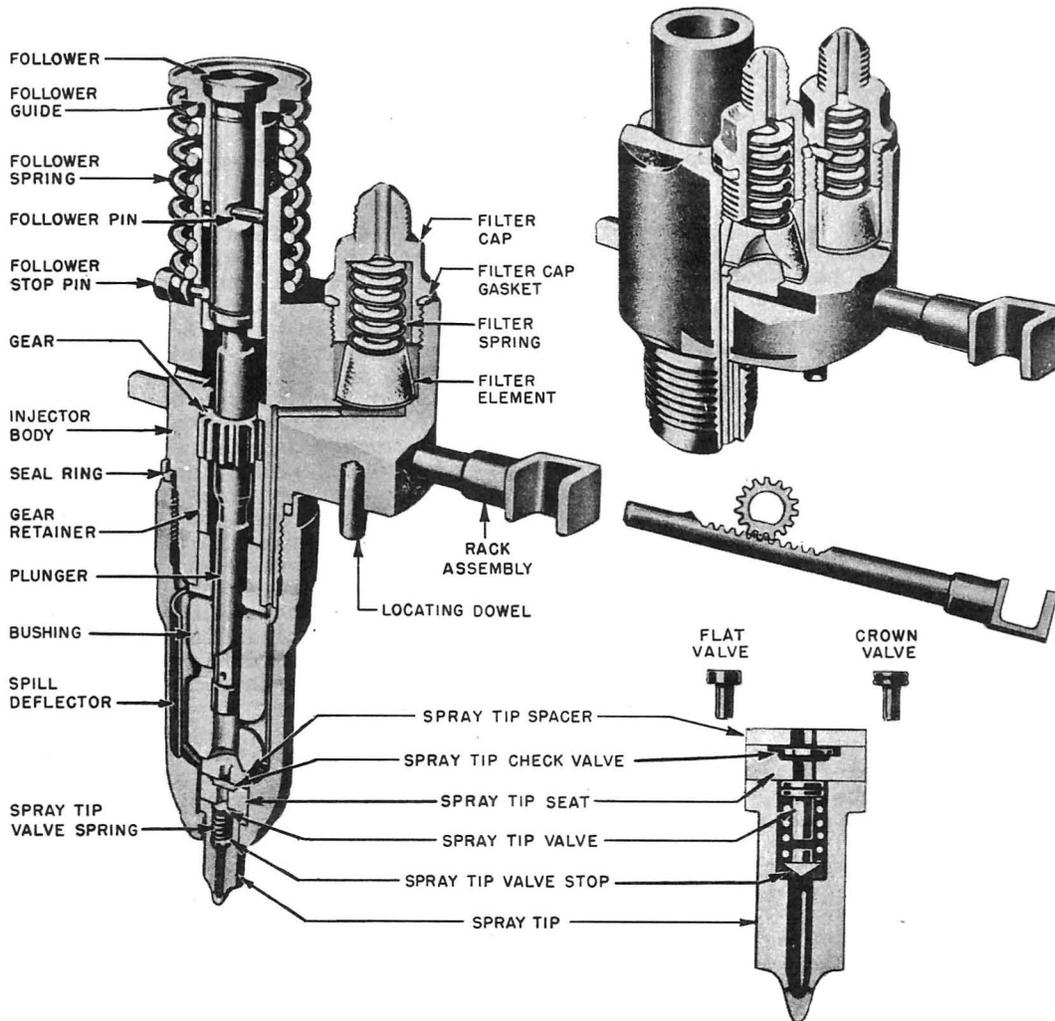

Fig. 13 - Fuel Injector Assembly
(5) Although it is possible to remove injector filter elements (see Fig. 13), and clean them by means of petroleum spirits and fuel oil, it